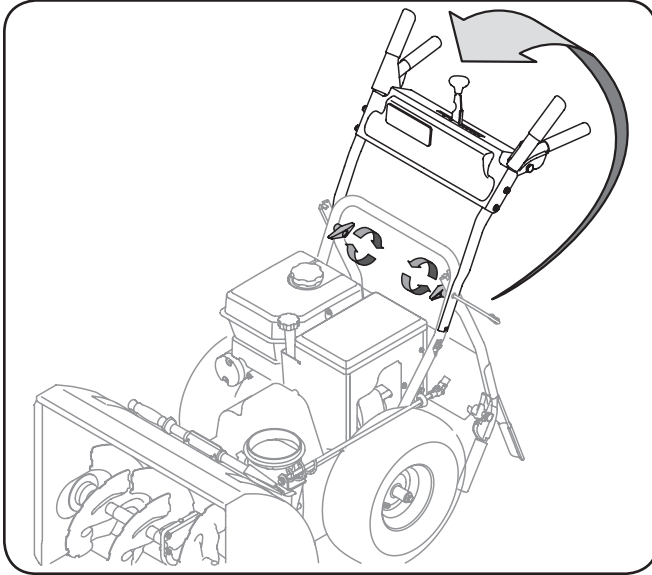

Figure 3-22
2. Observe the lower rear area of the snow thrower to be sure both cables are aligned with roller guides before pivoting the handle upward. See Figure 3-22.